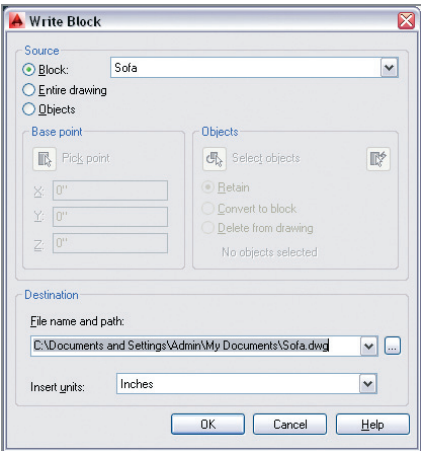

FIGURE 9.1 Writing a block to a file
- 2. Type **W** (for Write block), and press Enter. Select the Block radio button in the Source area of the Write Block dialog box. Select Sofa from the Block drop-down. Select Inches from the Insert Units drop-down in the Destination area (see Figure 9.1). Click OK, and the geometry within the Sofa block definition is written to Sofa.dwg.